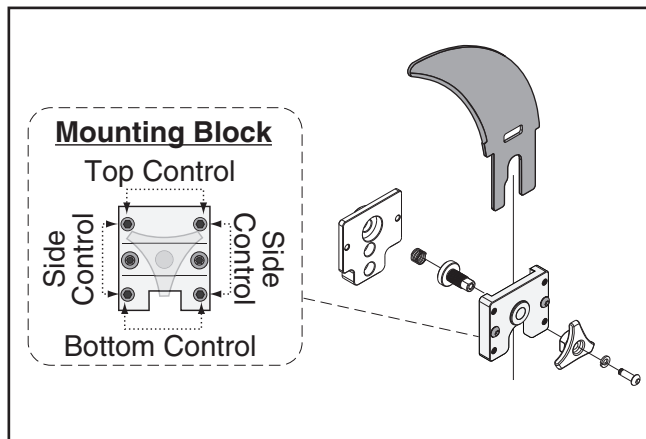

Figure 133. Set screws for adjusting spreader/riving knife position.
Figure 133 shows the set screws associated with controlling the mounting block position.
3. Loosen the two button head cap screws on the mounting block, then adjust the set screws on the block to move it in the necessary direction (see "Mounting Block" inset in **Figure 133**).